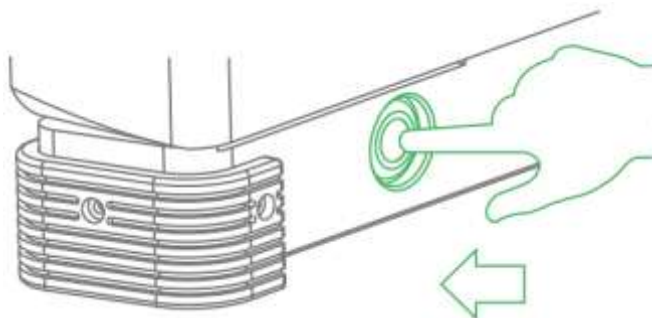

Figure 3-21
Step 2 Short press the image transmission button and the built-in red indicator light is on, as shown in Figure 3-21.